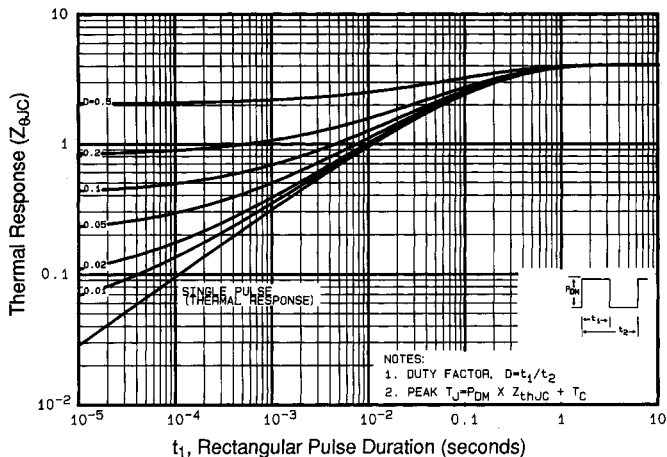

Fig 11. Maximum Effective Transient Thermal Impedance, Junction-to-Case
- ① Repetitive rating; pulse width limited by max. junction temperature (See Figure 11) ③ $I_{SD} \leq 2.1A$, $di/dt \leq 50A/\mu s$, $V_{DD} \leq V_{(BR)DSS}$, $T_J \leq 150^\circ\text{C}$ ⑤ $t=60s$, $f=60\text{Hz}$